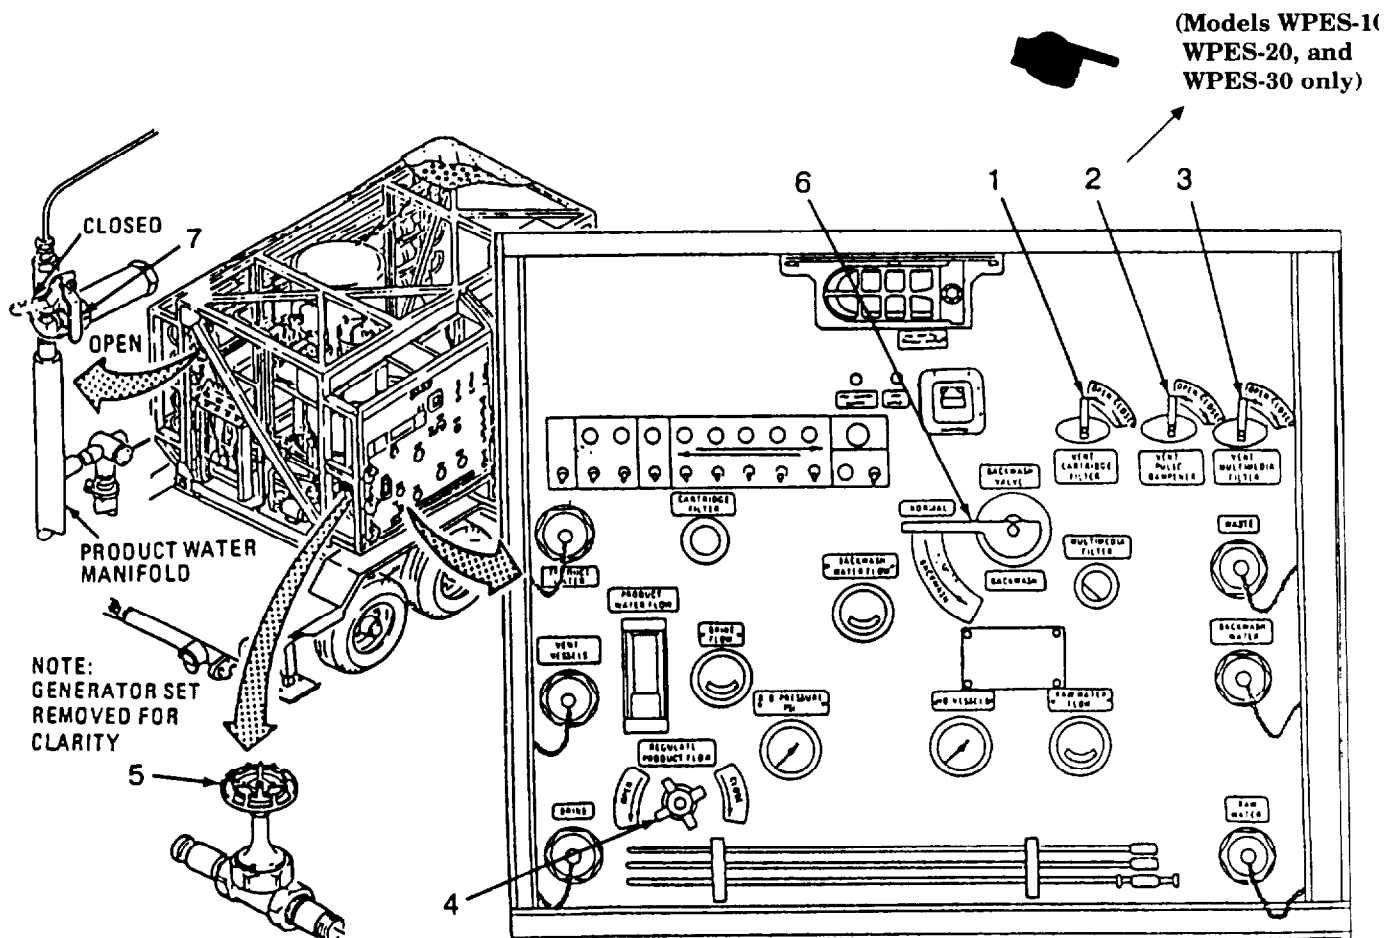

Figure 2-46. Control Valves.
- b. Open Vent Valves. Refer to figure 2-46. Open all five valves (Models WPES-10, WPES-20 and WPES-30) or four valves (Models H-9518-1, H-9518-2, and H-9518-3) as listed below. Three valves (Models WPES-10, WPES-20 and WPES-30) or two valves (Models H-9518-1, H-9518-2, and H-9518-3) are on the control panel, one is behind the control panel and one is at the front of the top R-O. pressure tube.
- (1) Set VENT CARTRIDGE FILTER valve (1) to OPEN.
- (2) Set VENT PULSE DAMPENER valve (Models WPES-10, WPES-20 and WPES-30 only) (2) to OPEN.
- (3) Set VENT MULTIMEDIA FILTER valve (3) to OPEN.
- (4) Open VENT VESSELS gate valve (5). Turn handwheel fully counterclockwise.
- (5) Set VENT PRODUCT WATER valve (7) to open. Valve is open when control handle is pointing down.
- c. Set Backwash Valve. Set backwash valve handle (6, figure 2-46) to NORMAL. Valve is set to NORMAL when handle is horizontal.
- d. Set Regulate Product Flow Valve. Set REGULATE PRODUCT FLOW valve (4, figure 2-46) to OPEN. Valve is open when handwheel is turned fully counterclockwise.